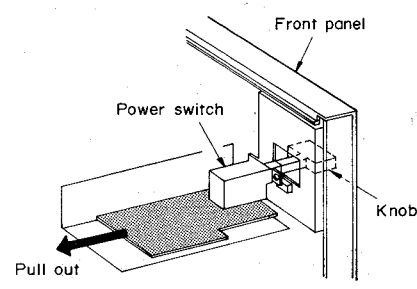

Fig. 6
2. Next, lay down the power switch P.C.B. as shown in Fig. 6, and remove the power switch from the front panel.